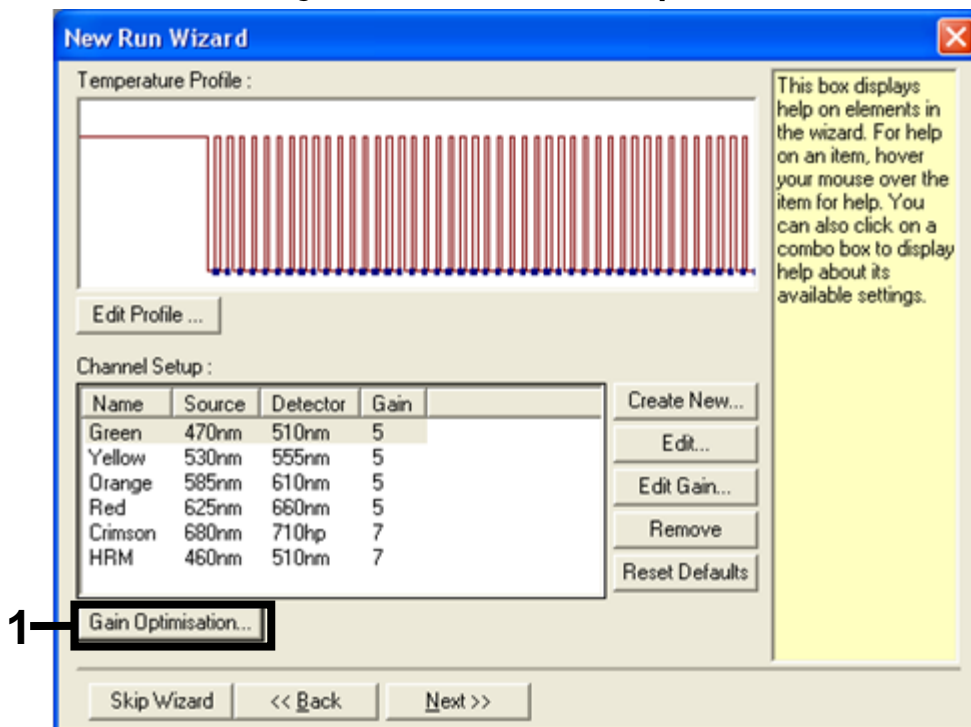

Figure 18. Gain optimization. 1 = “Gain Optimisation” button.
12. In the next dialog box, click the “Gain Optimisation” button (Figure 18).